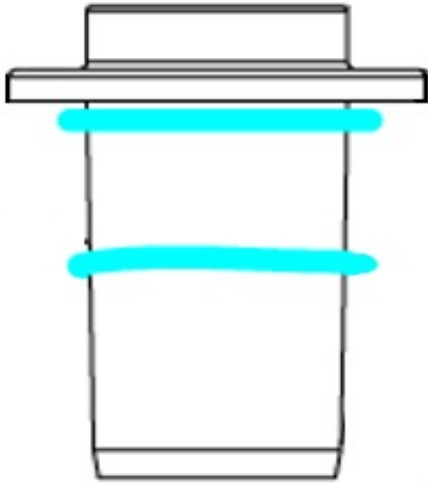

Fig. 19 Apply silicone under flange and ~1/2 way down 3" wall
- III. When the case has been moved into the store, two beads (~1/8"-1/4") of silicone will need to be applied around the egress under the flange and ~1/2 way down 3" wall (Fig. 19). Reassemble and seal the egress into the canopy. Reinstall (4) screws in the egress flange.